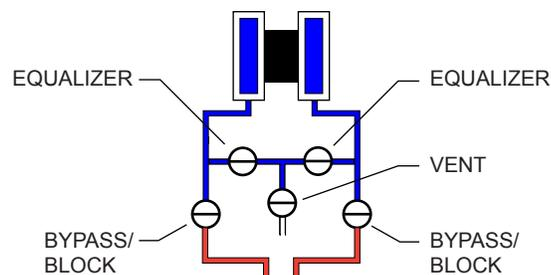

Figure 2.16—Valve positions for static pressure calibration
1. Close the bypass valves to isolate the pressure below the manifold (Figure 2.16, page 49).